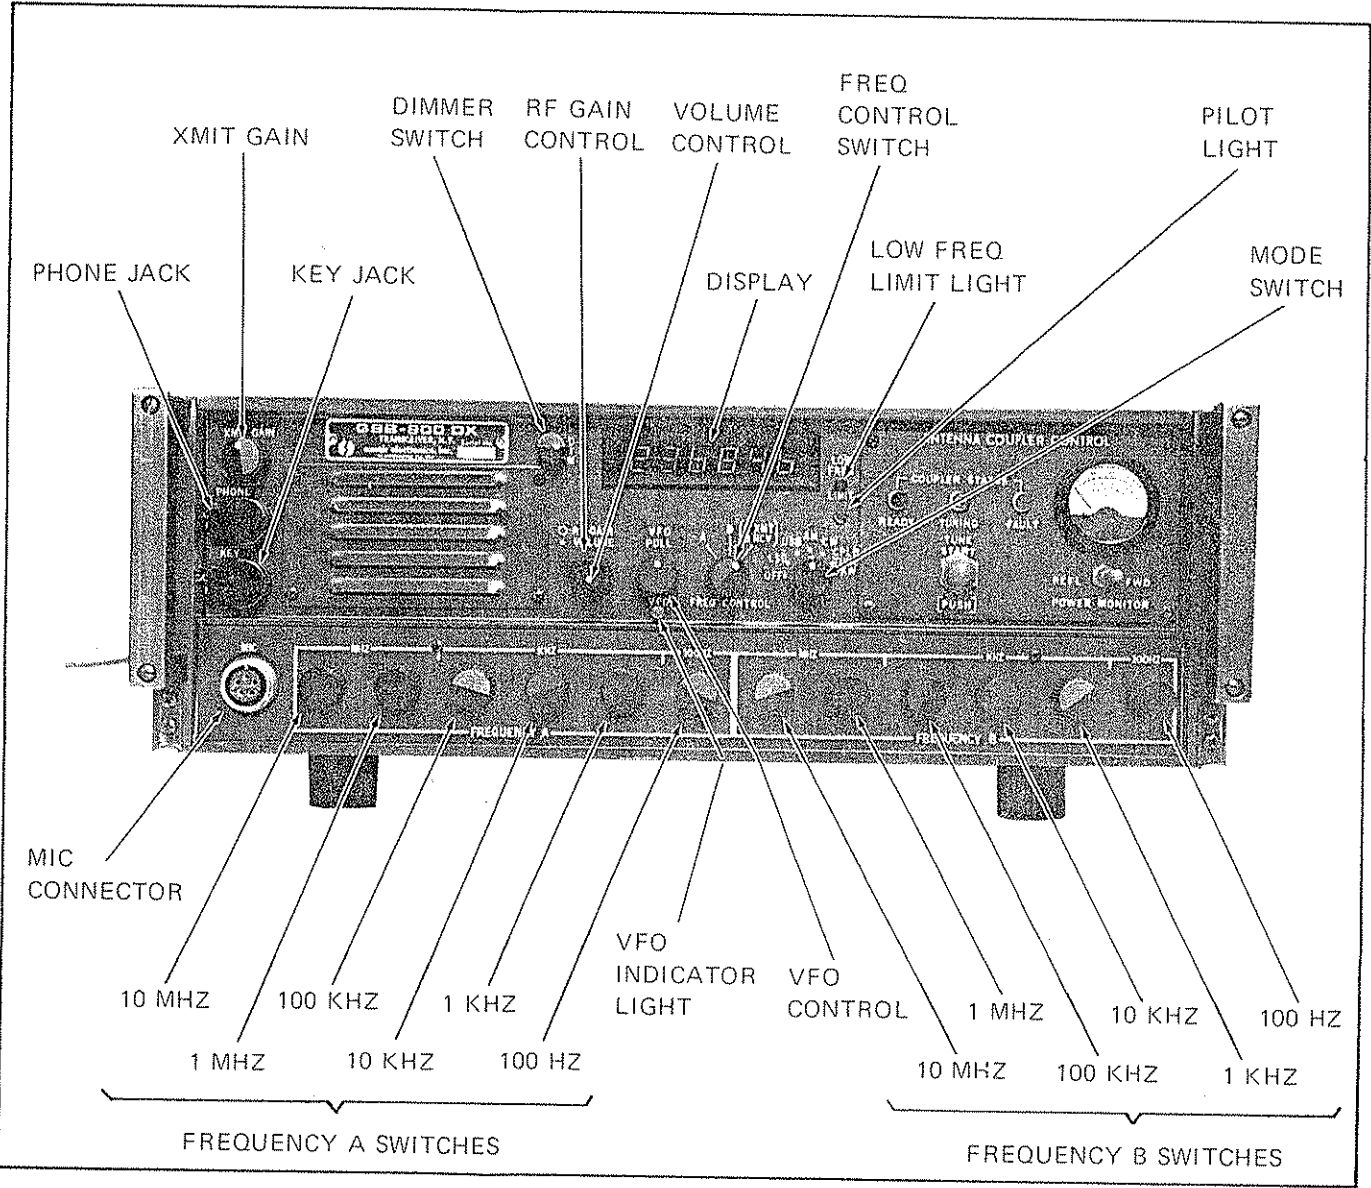

Figure 3.1 GSB-900 DX Transceiver Front Panel
3.2.1 Listed below are descriptions of all controls, indicators and connectors located on the Half Duplex front panel. They are illustrated in Figure 3.1.